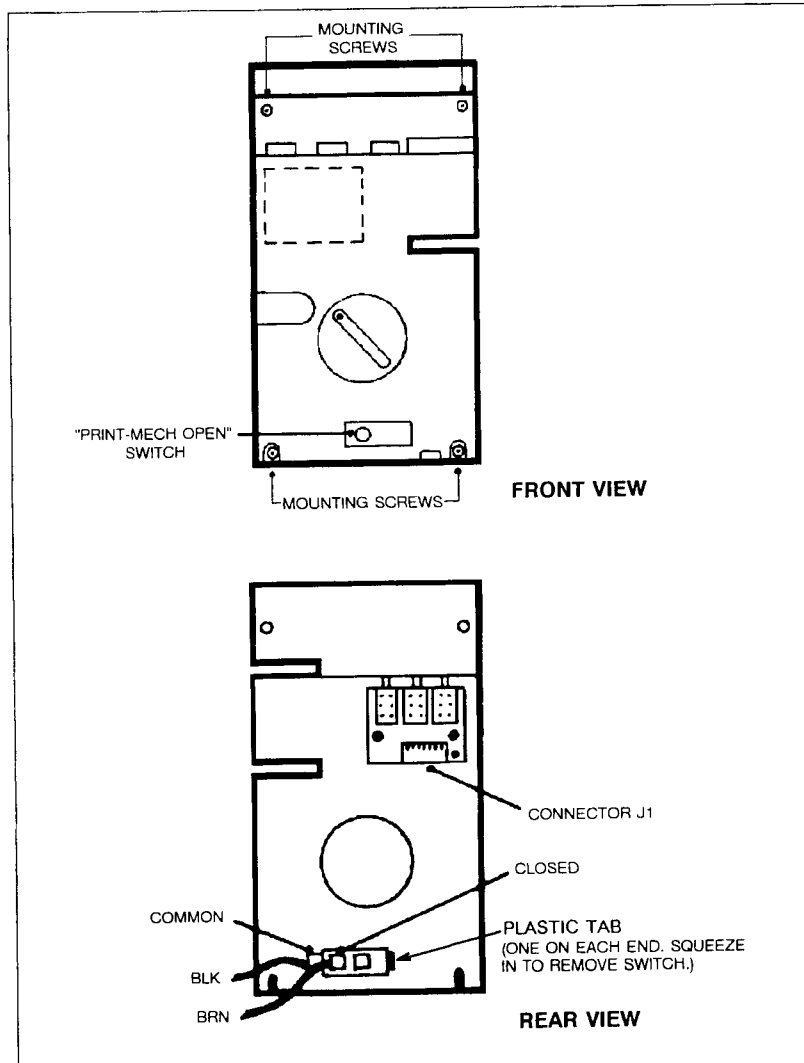

Figure 6-39. "Print Mech Open" Switch
- c. Remove the four 2mm Allen screws from the face of the lower tractor control key panel (see Figure 6-39).
Reverse the above removal procedure to reassemble. Note that the switch plunger is offset to the left side of the switch body. Be sure to replace the two wires to the Print Mech Open switch in the proper order: Black connects to the "COMMON" pin, Brown connects to "CLOSED" (no connection to "OPEN" position - See Figure 6-39 for details).